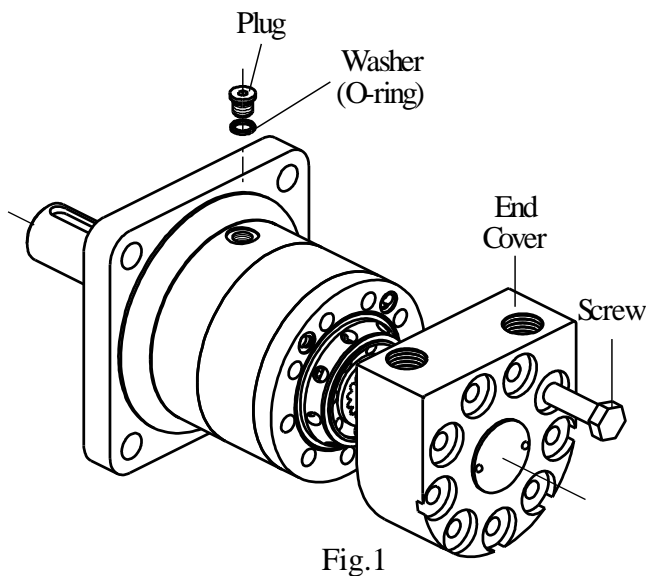

Fig.1
3. Unscrew screws using a S19 torque wrench. (see Figure 1)